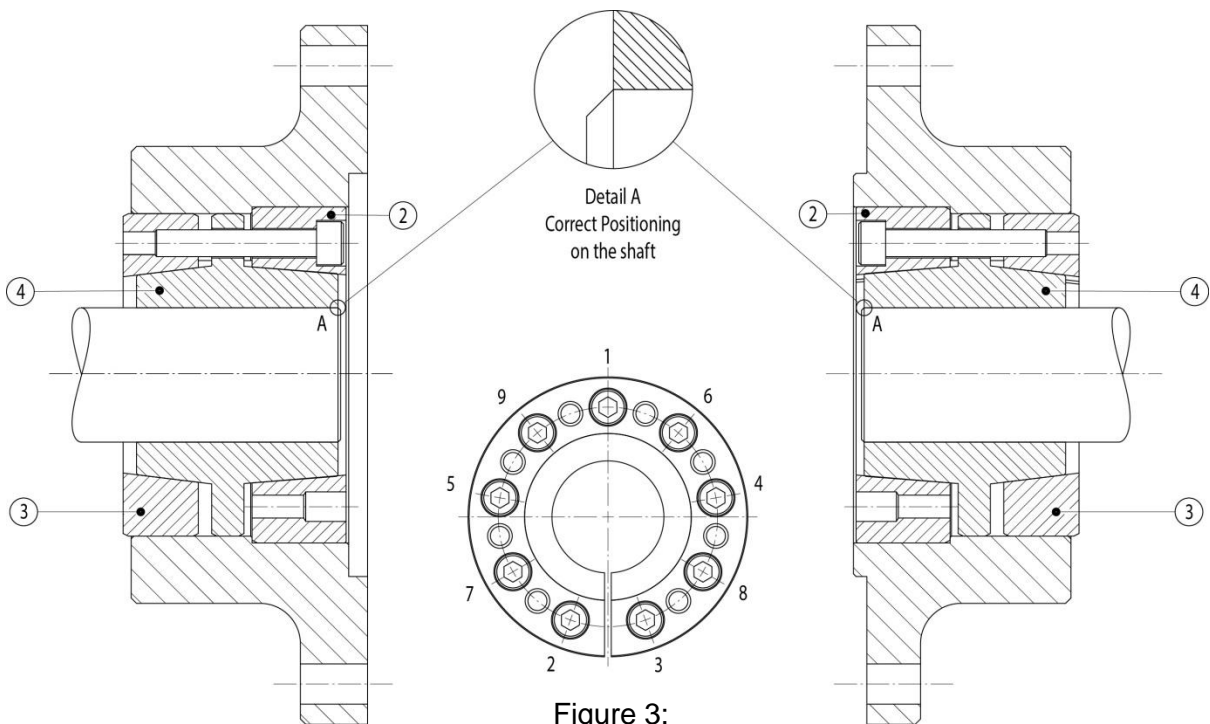

Figure 2:
8. Using the torque key set to 50 Nm, tighten the cylinder screws (5) in accordance with Figure 2 until the torque is applied to all screws. To ensure that all screws are tightened with the same torque, we recommend checking it in clockwise direction.
10. Continue tightening the cylinder screws (5) in steps of 50 Nm. Continue hereby as described in steps 8 and 9.